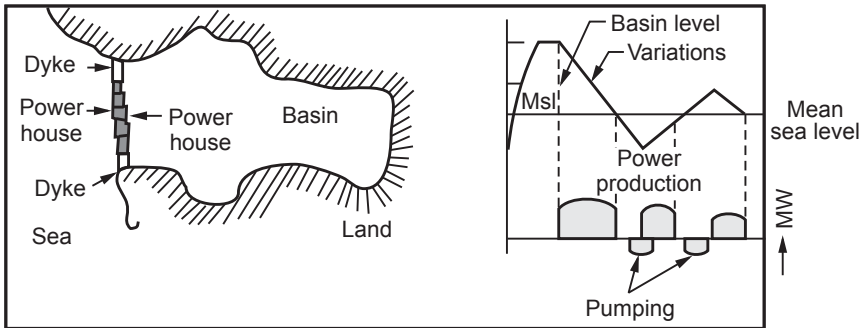

Fig. 5.1.12 Single-basin, two-way tidal plant coupled with pump storage system
- The cycle of operation is shown in Fig. 5.1.12.